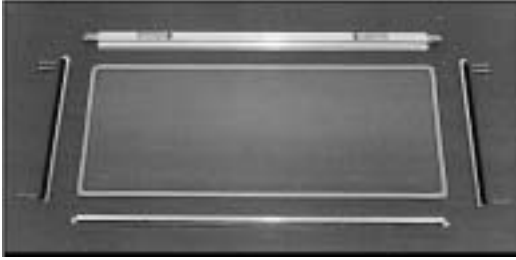

Figure 3—Reassemble Window
1. Remove four screws securing window frame to bow. **Figure 3.**